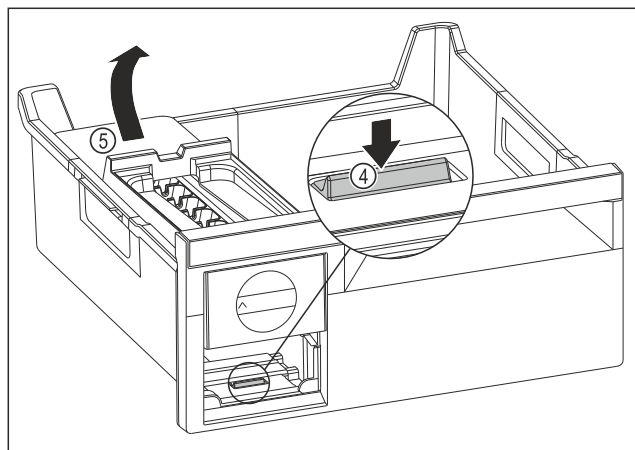

Fig. 91
- ▶ Removing the EasyTwist-Ice body: Use your finger to press the tab Fig. 91 (4) downward while at the same time lifting the EasyTwist-Ice body Fig. 91 (5) from behind with the other hand.